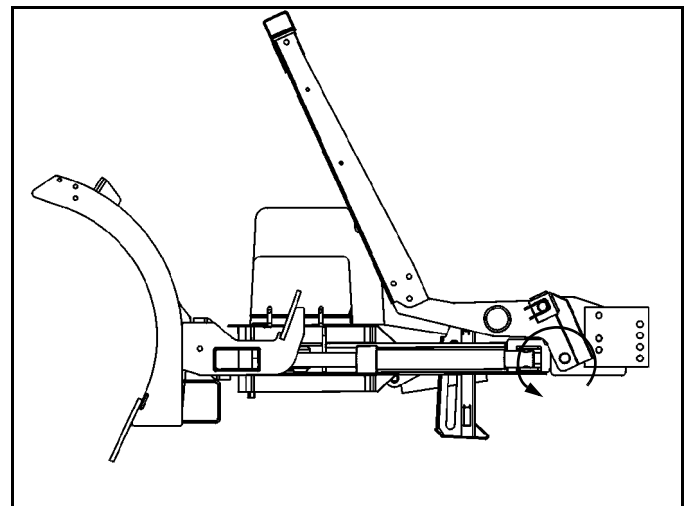

Figure 1-20
9. Rotate jack stand down and raise A-frame by pressing the up button. (See Figure 1-20).